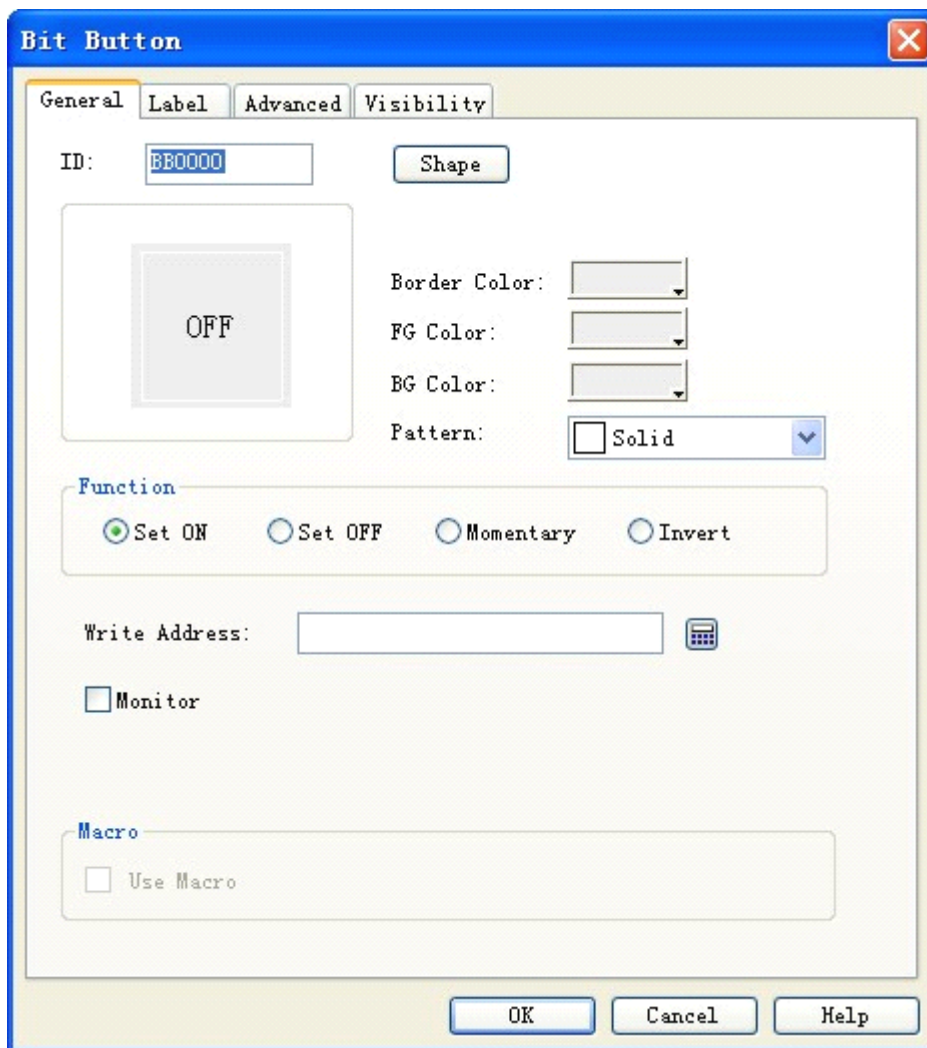

Figure 4-52: Bit Button dialog
1. Click Bit Button icon **B** in the tool bar, and then a dialog will pop up for setting of bit button properties. See Figure 4-52.